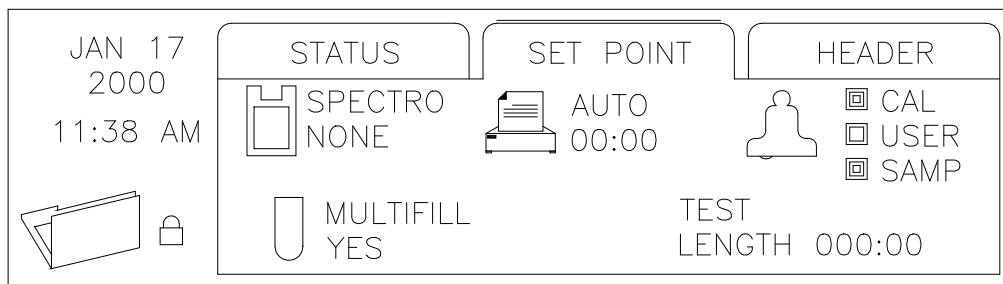

Figure 5-22: Set Point Screen
3. Press [→] to display the Set Point screen, as shown in Figure 5-22.